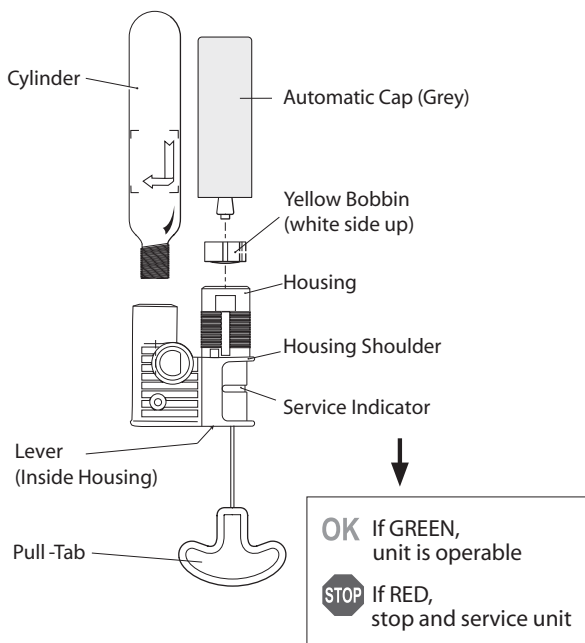

FIGURE 7 MD2021 AUTOMATIC MODE
5. **IMPORTANT!** The yellow bobbin must be installed into the housing (Fig. 7), white side up, aligning the slots on the bobbin with the ridges inside the threaded housing. The bobbin will slide in.
1. Open the inflator cover flap to expose the inflator (Fig. 7).
7. **IMPORTANT!** Bobbin (yellow) must be installed into the housing (Fig. 7), white side up, aligning the slots on the bobbin with the ridges inside the threaded housing. The bobbin will slide in.
11. Examine the service indicator (Fig. 7) and ensure it is GREEN. If the service indicator is red, the mechanism has been fired or is incorrectly fitted and the inflator requires service.